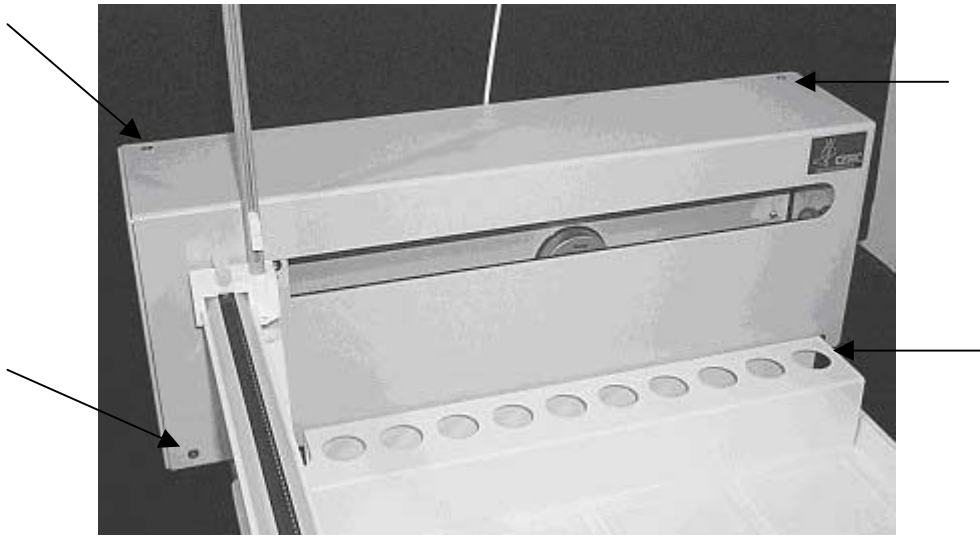

Figure 1-7. Front view of ASX-510 Auto-Sampler showing front cover screws.
5. Next, the front cover needs to be removed. Remove the four corner screws shown in Figure 1-7.